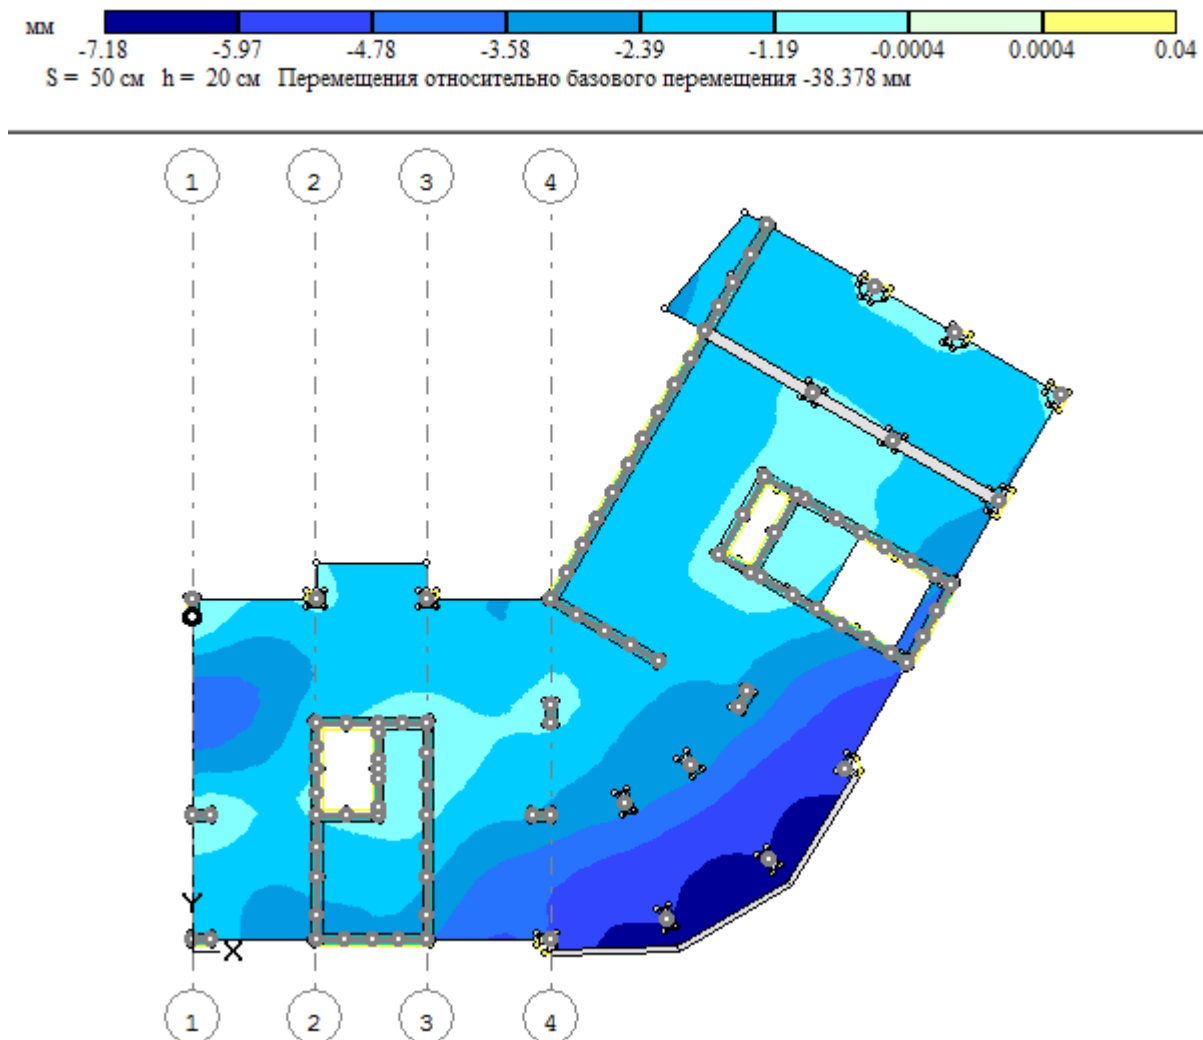

Figure 2.4.2 Displacement contour plot relative to the specified level
Displacement contour plots along the Z-axis will be redrawn and values will be recomputed relative to the specified horizontal level – node of support with min displacement along the Z-axis (see Fig.2.4.2).
- move this line to the point with coordinate $Y = 150$ cm – in the appropriate box you will see the value of displacement relative to the specified level (see Fig.2.4.2) at this point.